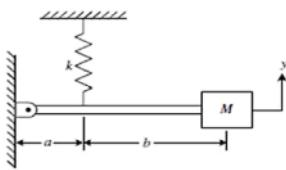

Fig. Q4(c)
4. For the system given below, draw the correct FBD for each mass, M , and the resulting EOM for the system. Then determine the resulting natural frequency for the systems. Assume the beam in Figure Q4(c) is rigid.